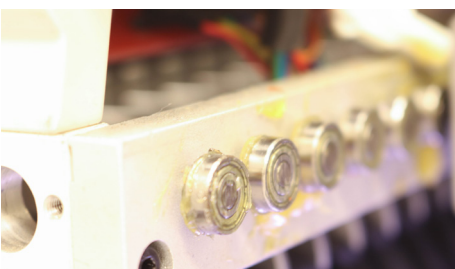

Figure 103
2. Remove the metal cover on each of the machine's heads and apply one to two drops of sewing machine oil on the lower needle bar of each needle. Note: The foam pads located behind the metal cover on the lower needle bars should soak up the oil. **See Figure 103.**
1. Apply white lithium grease to the bearings (metal rollers) on the back of the head. Move the machine's head from needle #1 to needle #15 to be able to see and apply the grease on all the metal rollers. **See Figure 103.**